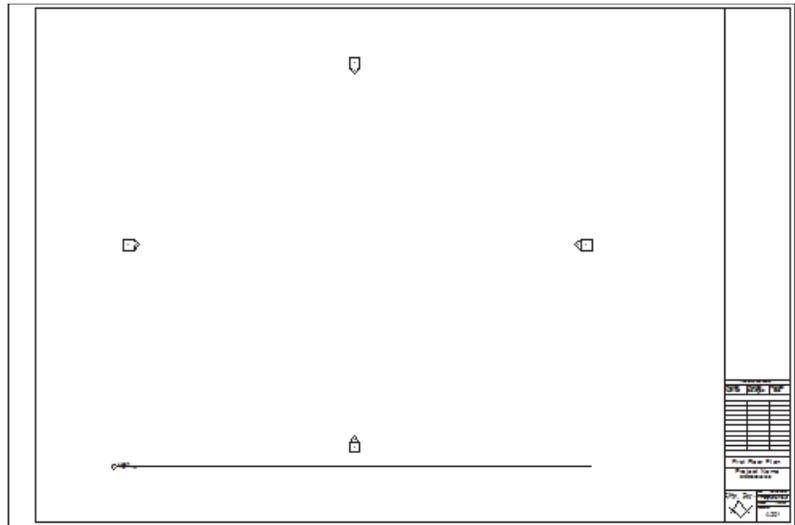

Figure 1–58
11. Open this sheet view. Drag the associated **Level 1** floor plan view onto the sheet, as shown in Figure 1–58.